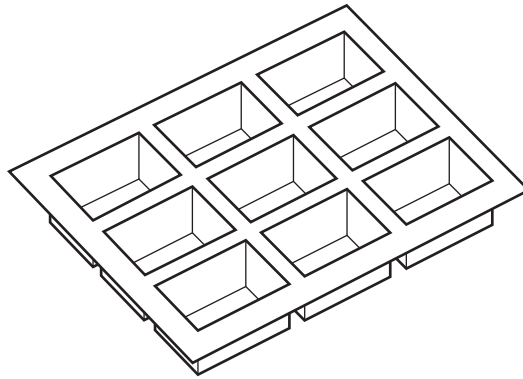

Fig. 5
- (b) Fig. 5 shows a plastic insert to hold chocolates. The insert will be made by vacuum forming.